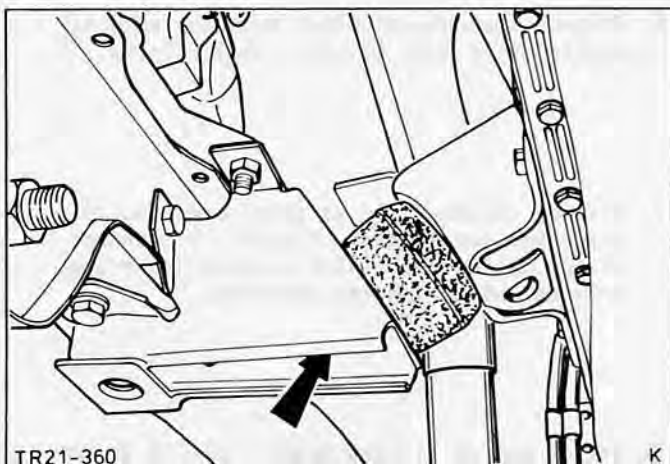

Fig.20. Rubber insulator of engine mounting.
23. Fix the rubber insulators of the engine mounting, Fig.20, and detach engine lifting bracket.